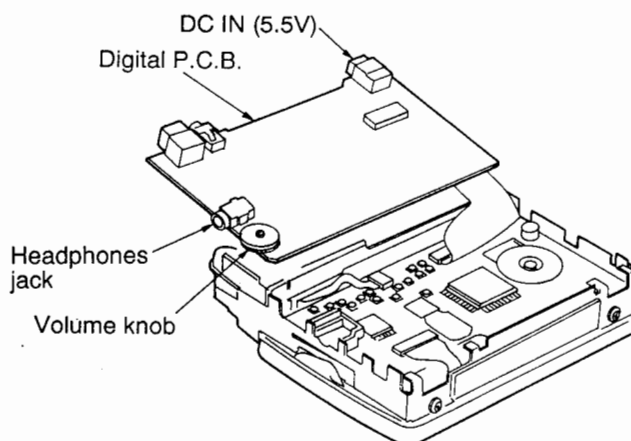

Fig. 1
1. Complete disassembly steps 1, "Removal of the battery cover ass'y" through 8, "Removal of the digital P.C.B." In step 8, remove the 8 screws (①~⑧) retaining the Digital P.C.B.
2. Set the HOLD switch (S502) to the OFF position (See Fig. 1).